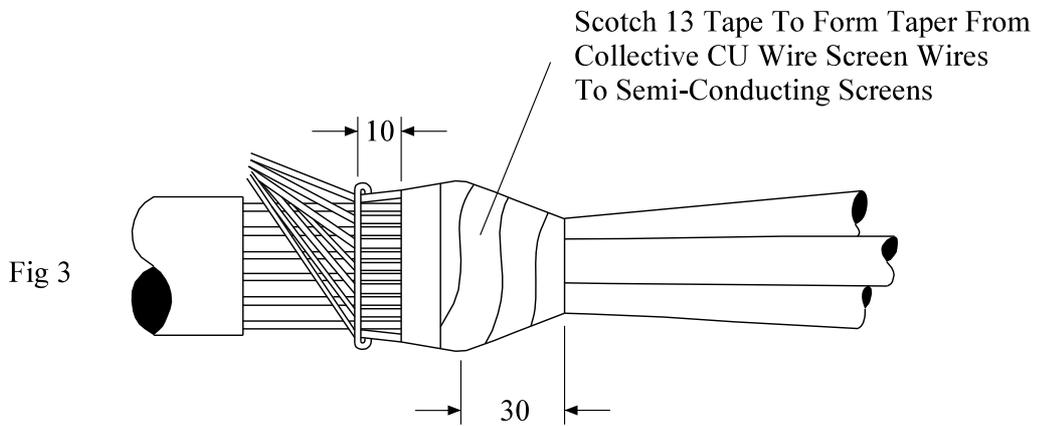

Fig 3
4. Gently dress the copper strip down onto the lead sheath and secure with a stainless steel cable tie – Fig 3.
11. Overlap the semi-conducting screens by 20mm ensuring a minimum of two layers coverage, see – Fig 3.